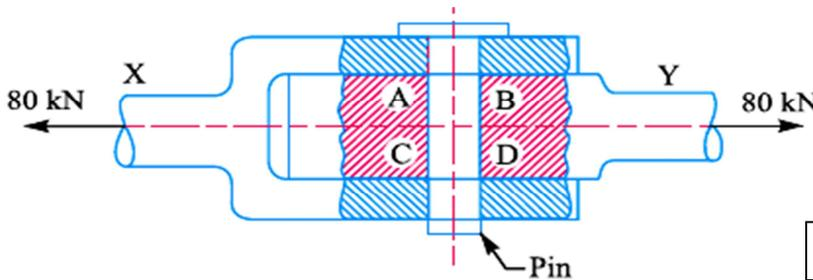

Fig 2
22. i) A pull of 80 kN is transmitted from a bar X to the bar Y through a pin as shown in Fig 2. If the maximum permissible tensile stress in the bars is 100 N/mm² and the permissible shear stress in the pin is 80 N/mm², calculate the diameter of bars and of the pin. (7) CO1 [K₃]